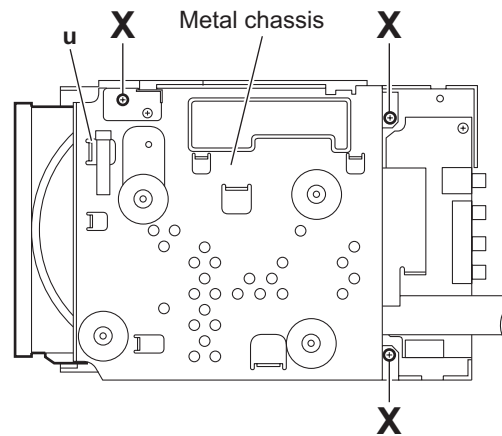

Fig.26
- (2) From the top side of the main body, remove the three screws **X** and take out the metal chassis. (See Fig.26.)